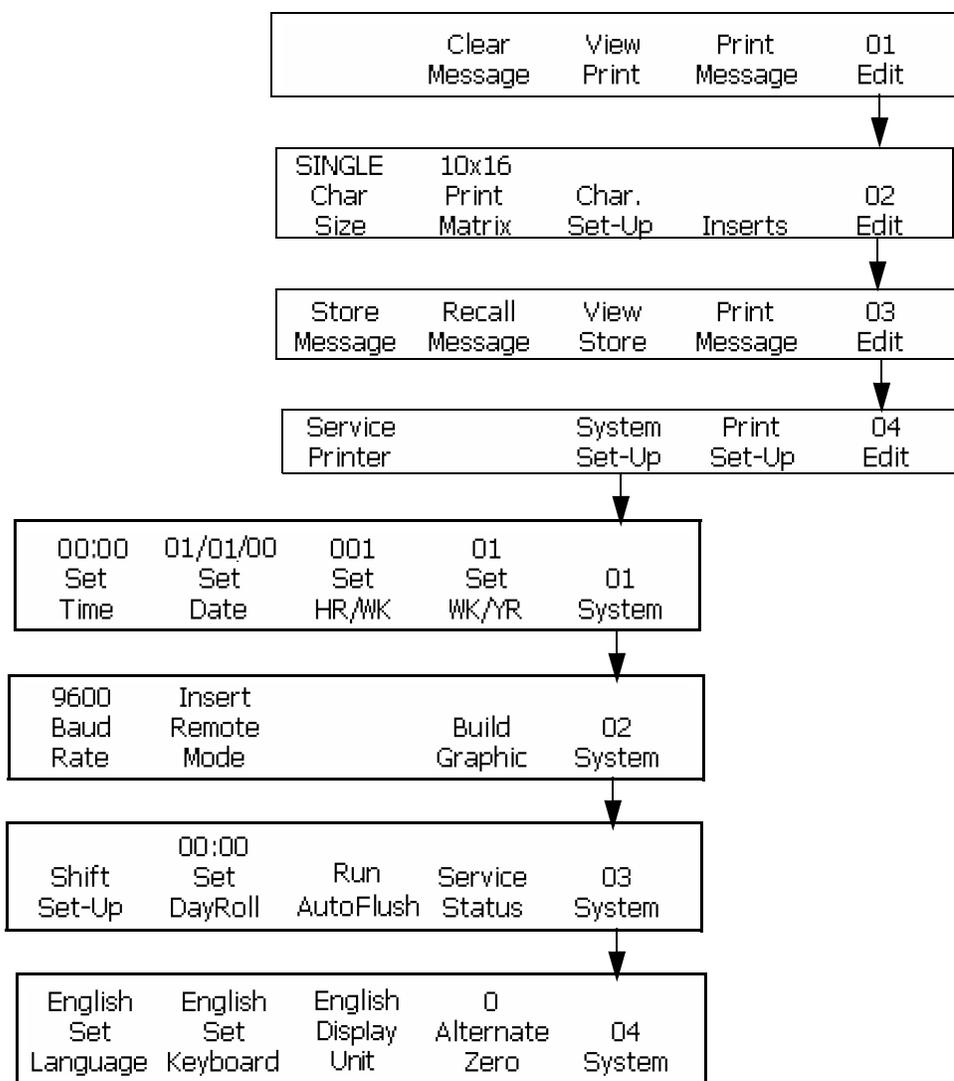

Figure 7-23: Access Frame <04 System> to Set Keyboard
- 1 Begin with the Frame <04 System>. Refer to Figure 7-23.
- 1 Begin with the Frame <04 System>. Refer to Figure 7-23 on page 7-35.